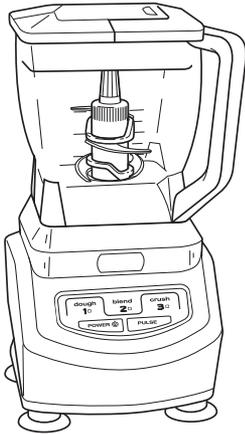

Fig. 10
- 1 Place the motor base on a clean, dry, level surface such as a counter or table top. **(Fig. 10)**
- 4 Add the ingredients and secure the bowl lid onto the bowl. **(Fig. 10)**